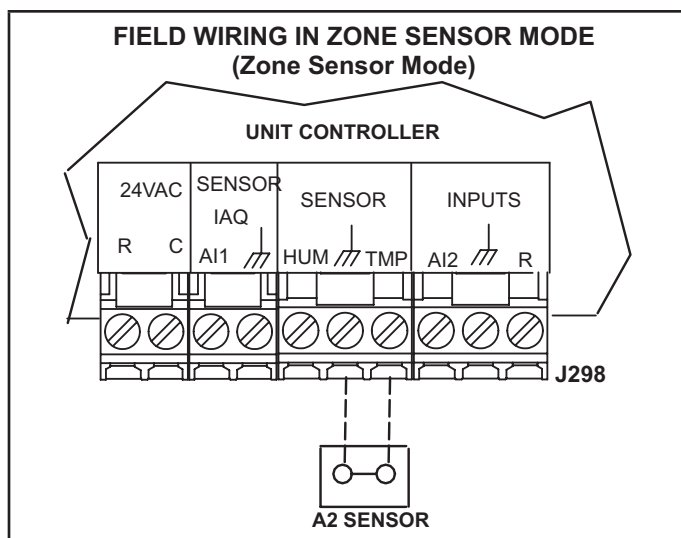

**FIGURE 8**
The Unit Controller will operate two stages of heating and cooling based on thermostat demands. Install thermostat assembly in accordance with instructions provided with thermostat. See FIGURE 8 for field wiring and refer to wiring diagrams on unit.
- 2 - Make wiring connections as shown in FIGURE 8 for Thermostat Mode and FIGURE 9 for Zone Sensor Mode. In addition, connect either a humidity sensor or a dehumidification input. See FIGURE 10 or FIGURE 11 for humidity sensor wiring and FIGURE 12 for dehumidification input wiring.